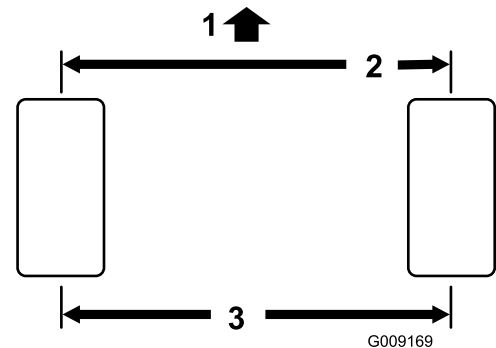

Figure 68
1. Measure the center-to-center distance (at axle height) at the front and rear of the steering tires. The front measurement must be 3 mm (1/8 inch) less than the rear measurement (Figure 68).